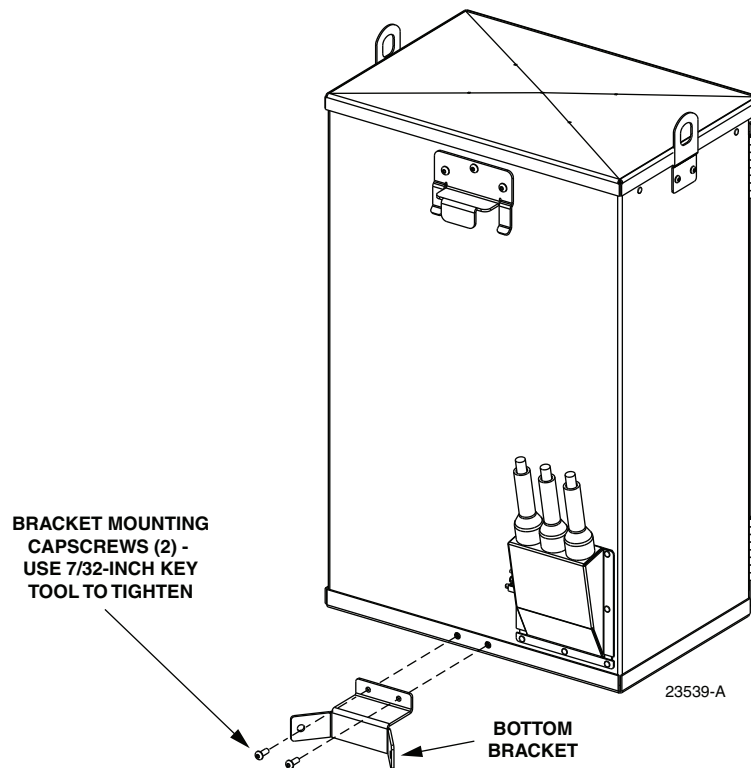

Figure 4. Securing Bottom Mounting Bracket to the Cabinet
5. Locate the two bottom bracket mounting capscrews (shown in Figure 4) and the 7/32-inch hex key that are provided with the cabinet.